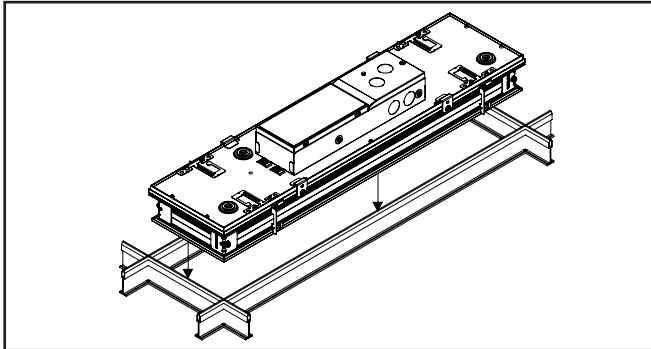

Figure 1.
4. Pass fixture and kit assembly through the grid at a 45 degree angle and lay the assembly into grid (Fig 1).